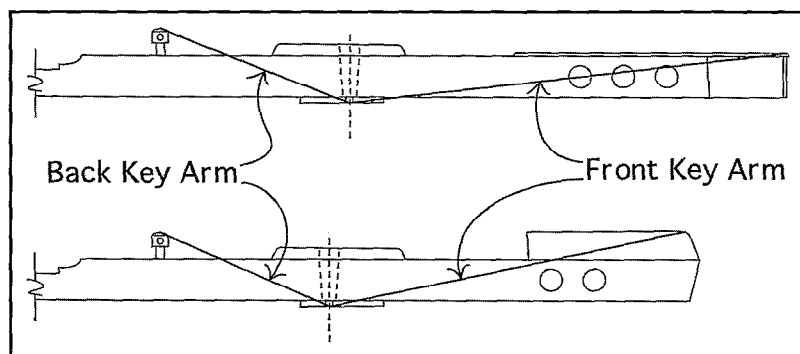

Figure 1 — Measuring points for key ratio.
2.1:1. I should mention, also, that I measure key ratio from the center of the bottom of the balance rail hole to the top of the capstan and to the front of the top of the key cover or sharp (see Figure 1).